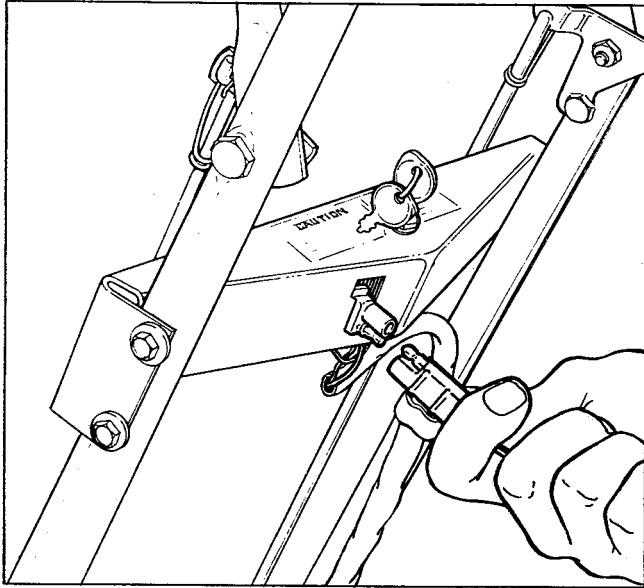

Figure 24. Attaching Charger
1. If the battery has not been used for an extended period of time (brand new in the carton, off-season storage etc.), charge it for 14-24 hours to restore full charge (see figure 24).